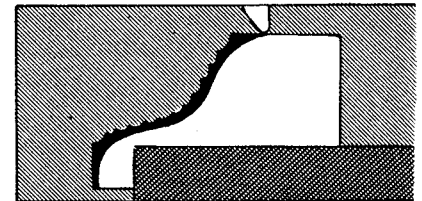

FIG. 502
13. Move the tool down and the work sideways until the tool scrapes at a point $1/32$ " to the left of where the curve drops away from the horizontal line (Fig. 502).